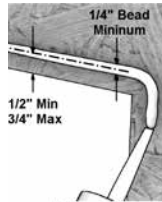

Figure 2
- (Required)** Apply a generous (at least 1/4" diameter), continuous bead of sealant to the exterior of the rough opening to ensure an adequate seal between the back of the nailing fin and the exterior surface of the rough opening (**Figure 2**).